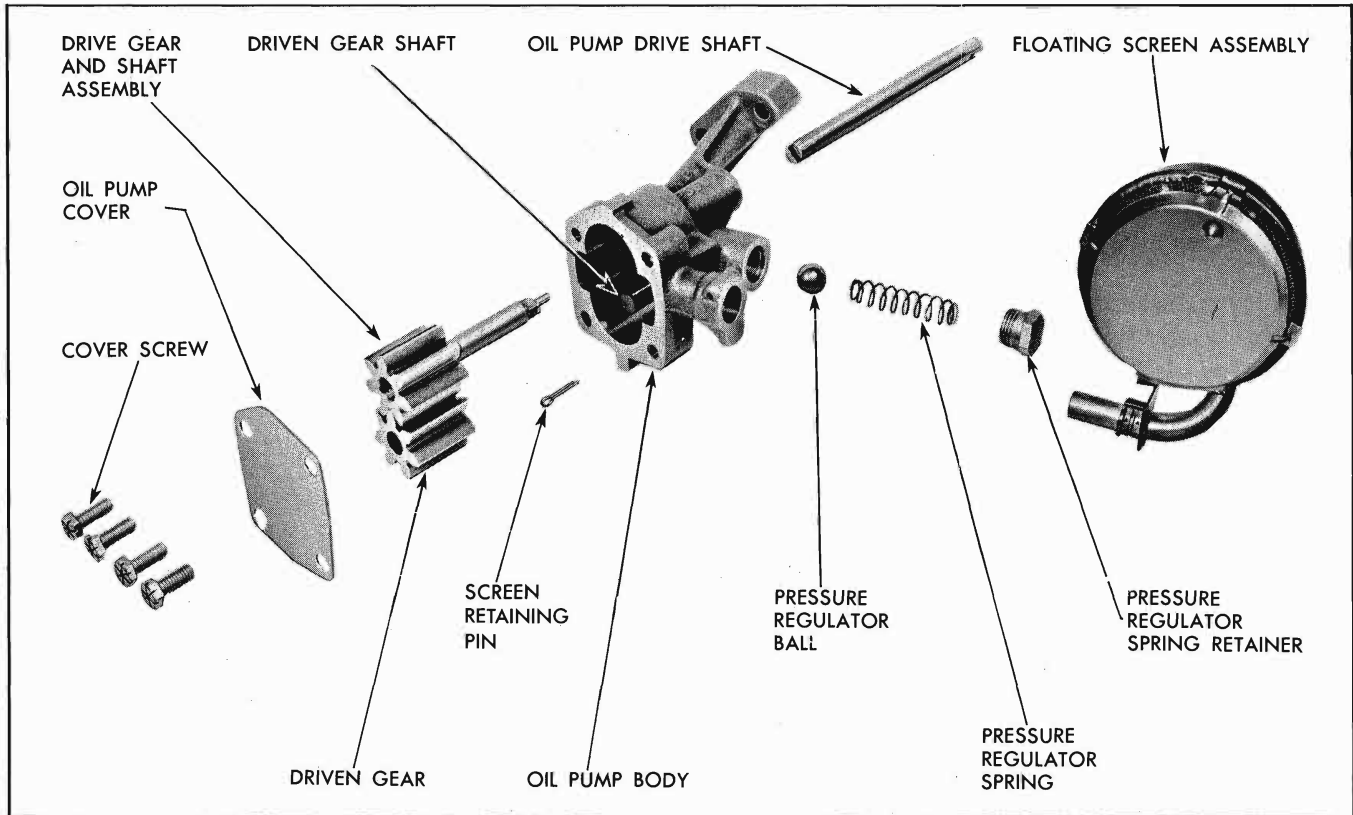

Fig. 6A-11 Exploded View of Oil Pump
1. Remove cotter pin which retains floating screen to oil pump inlet, and remove screen (Fig. 6A-11).
2. Inspect pressure regulator spring (Fig. 6A-11) for distortion, cracks, and wear on sides.